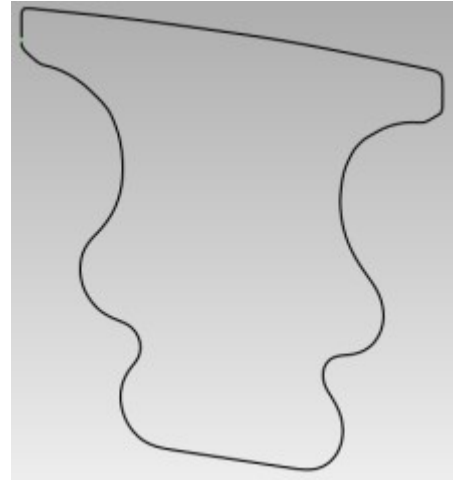

Figure 117
- A curve object is created in the **Model Manager Panel**, Right click and choose Hide on the root to view the new **Free Curve** object, see **Figure 117**.